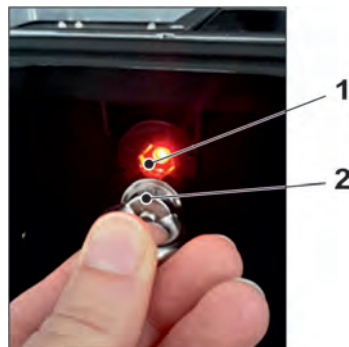

Fig. 30-20 Waking up the NivuLevel Mobile
2. “Wake up” NivuLevel Mobile: to do this, hold the supplied magnet (Fig. 30-20 Pos. 2) in front of the Reed contact (Fig. 30-20 Pos. 1; at the front of the NFM) until the LED lights up.